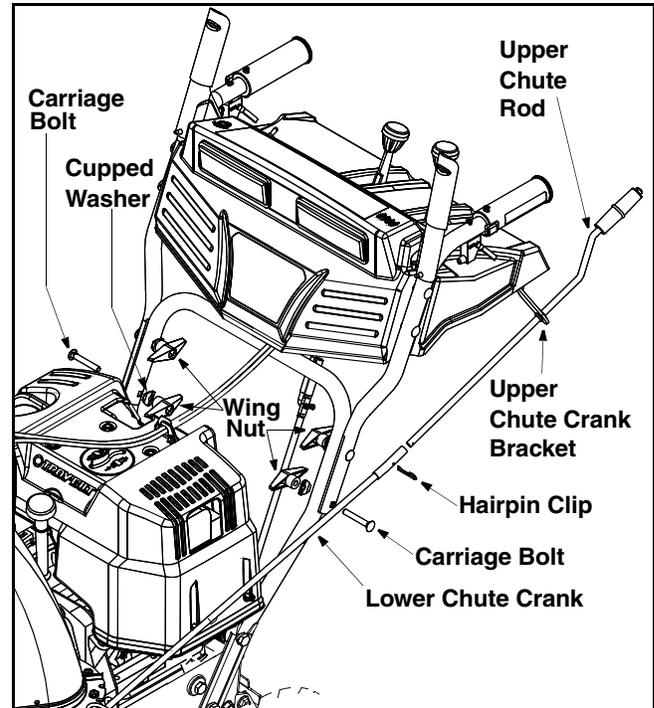

Figure 2
- Remove the **lower** plastic wing nut, cupped washer and carriage bolt from each side of the lower handle. See Figure 2.
- Secure the upper handle and lower handle with the two plastic wing nuts, cupped washers and carriage bolts previously removed. See Figure 2.
- Slide the shift rod connector down over the end of the lower shift rod. Tap the connector until it **locks** over the lower shift rod. See Figure 2.
- Align the two holes on both chute rods and insert the hairpin clip removed earlier, through these holes. See Figure 2.